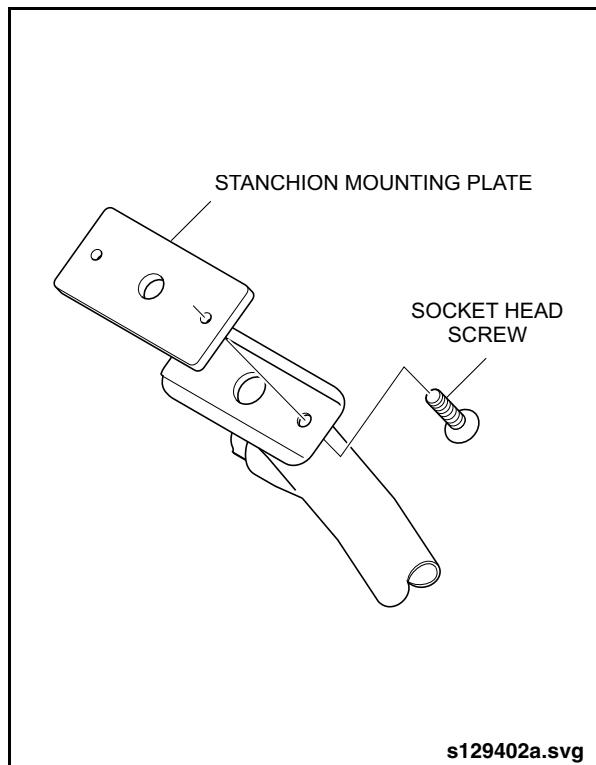

Fig. 17-14: Stanchion Upper Mounting
2. Remove the fasteners from the mounting plate that attaches the upper end of the stanchion to the overhead support extrusion. See "Fig. 17-14: Stanchion Upper Mounting" on page 18.